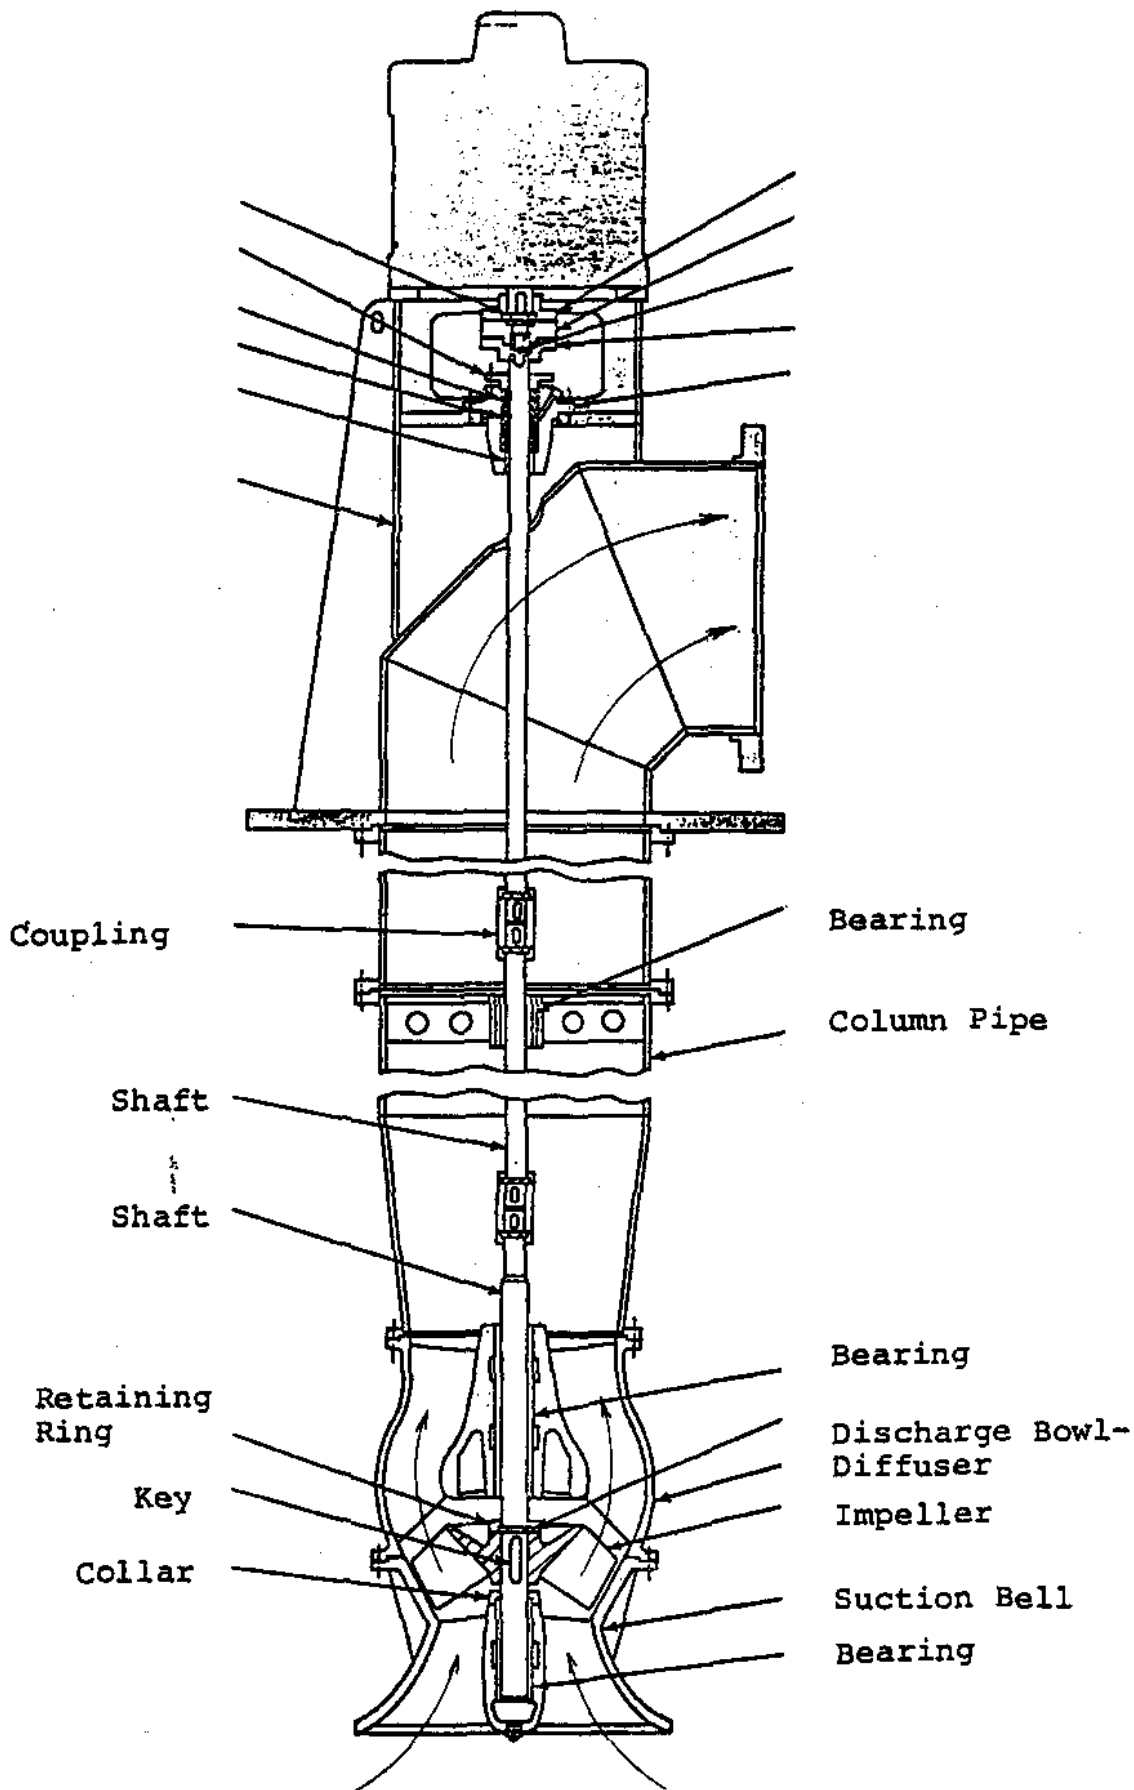

Figure 3
- (b) vertically mounted, Figure 3.
Another example of a diffuser on a vertical pumps is in Figure 3.